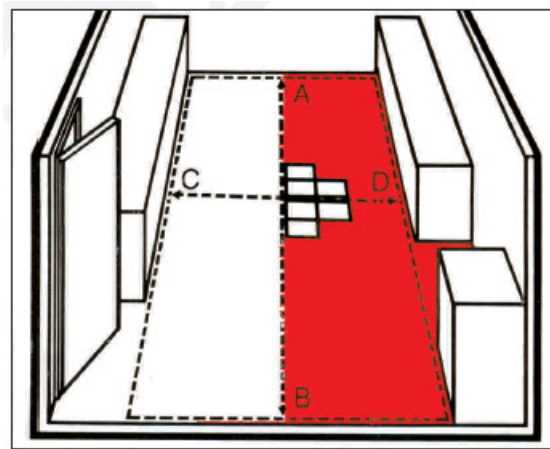

Fig 6
2.6 Place successive tiles outwards from the first and along both chalk lines building a “castle”. Lay each tile with the “grain” (marbling) at right angles to the adjacent tile. **Refer to Fig 6 & 7.**